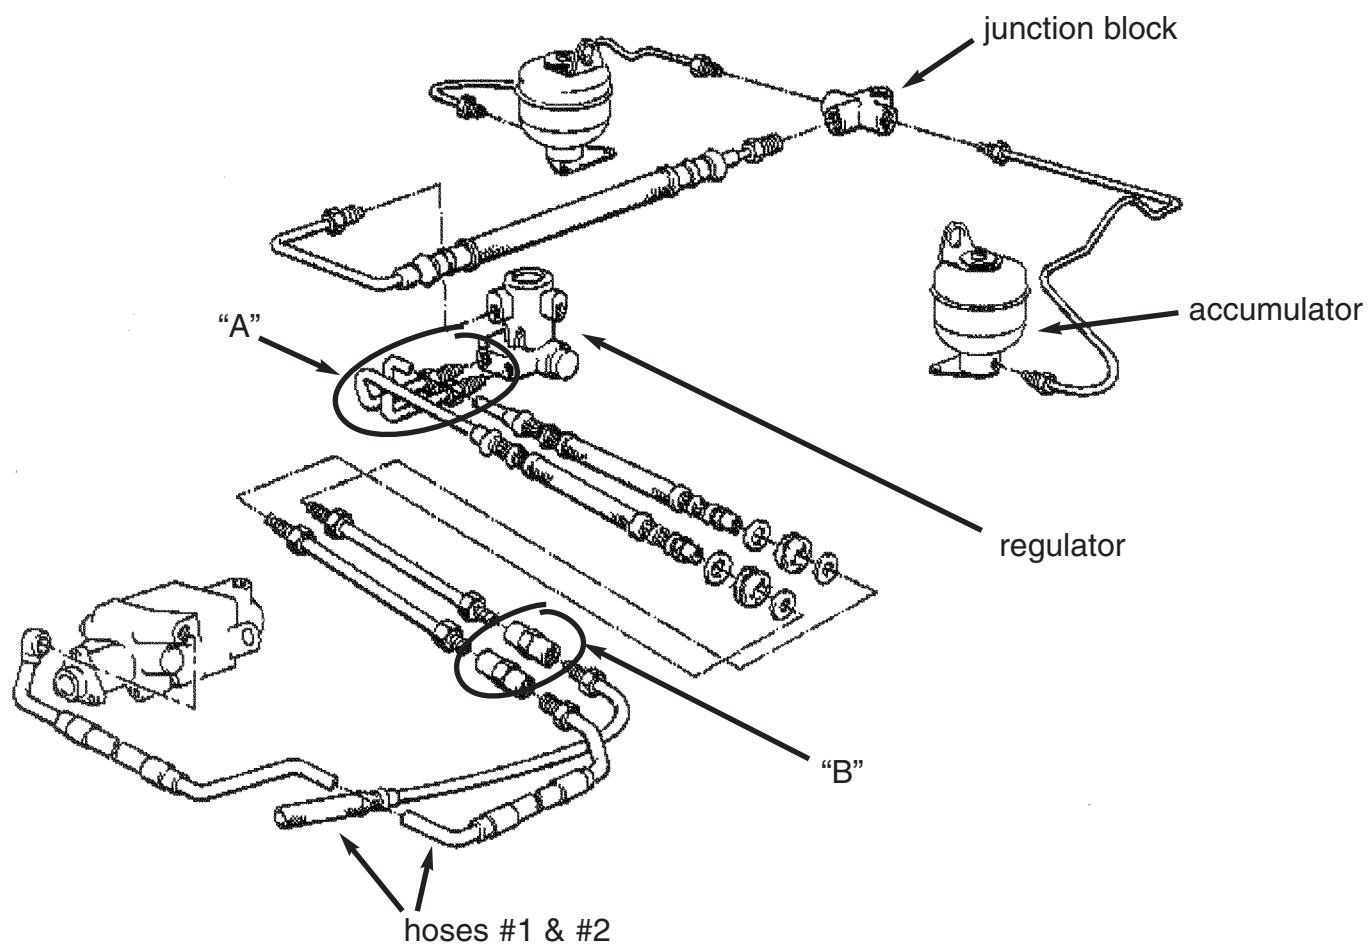

Figure 1
6. The pressure and return hoses must be rerouted and connected together. This can be done using the supplied union connector (M10 x 1.0) at the ends of the hoses where they have been disconnected from the regulator (Figure 1 "A") or further forward closer to the pump. The connection can be done at (Figure 1 "B") using one of the existing union connectors and gently bending the hose and pipe (#1 & #2) and using the union to connect them together. The hoses CAN NOT be simply plugged. This will damage the hydraulic pump, which also supplies the power steering and power brakes.